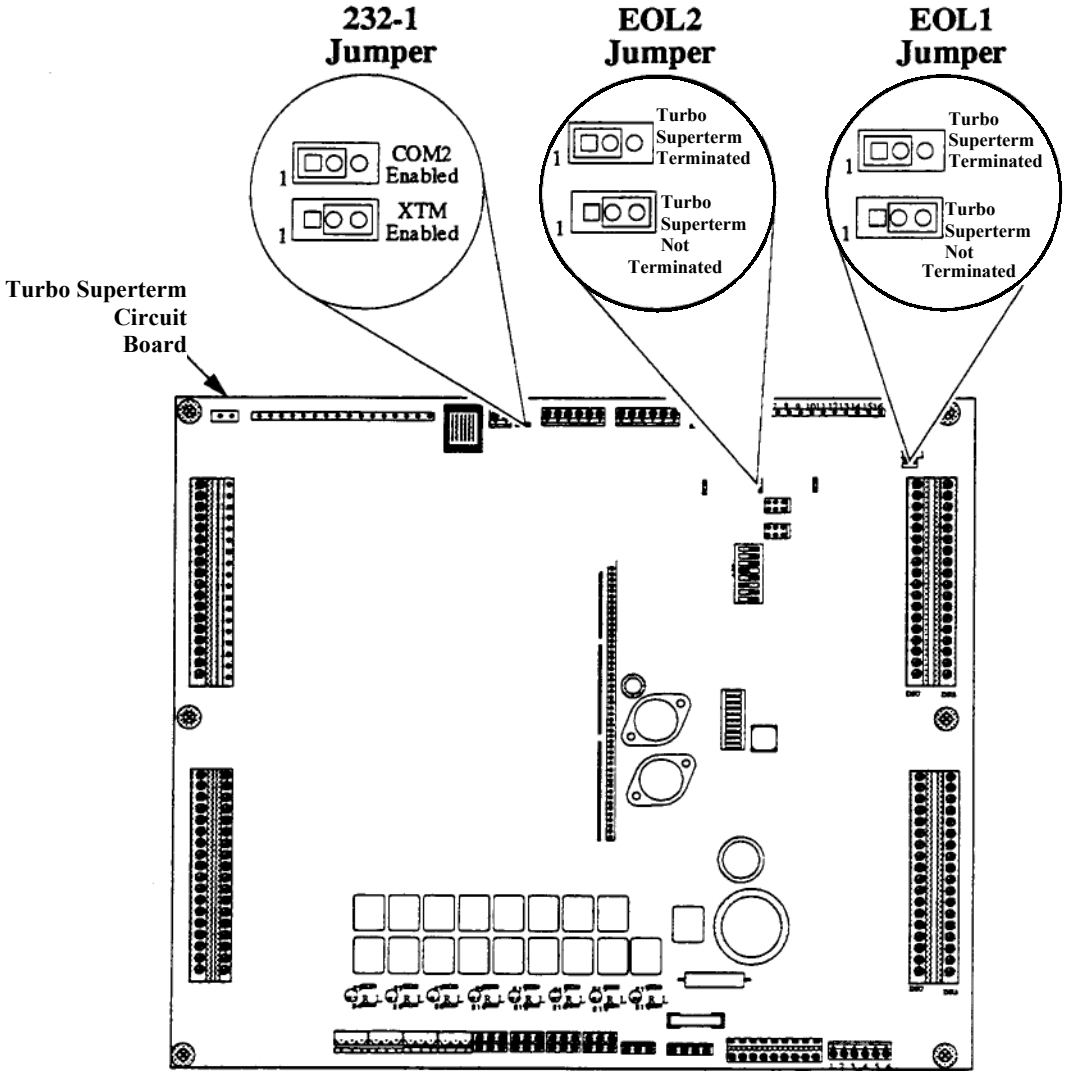

Figure 46 - 232-1, EOL1, and EOL2 Jumper Locations and Settings
- Set the jumper to contact the center post (pin 2) and the lefthand post (pin 1) (see Figure 46).
Set the jumper to contact the center post (pin 2) and the lefthand post (pin 1) (see Figure 46).